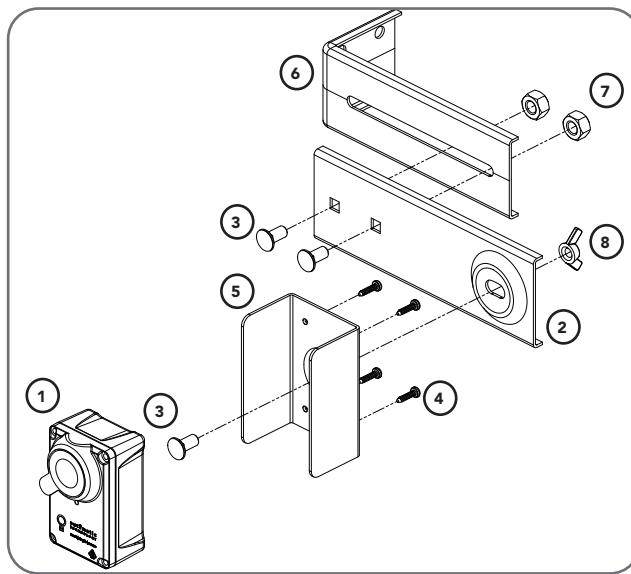

Fig.6.4.1
a. Place the round screw (3) through the Bracket (5). Attach the Safety Beam Transmitter (TX) using four (4) M3 x 5 Taptite screws (4) (Fig. 6.4.1).
b. Connect the mounting bracket (2) to the Bracket (5) using the wing nut (8) onto the round screw (3). Secure the adjustment bracket (6) to the mounting bracket (2) using two (2) screws (3) and nuts (7).
c. Repeat steps (a) and (b) to assemble the Safety Beam Receiver (RX).